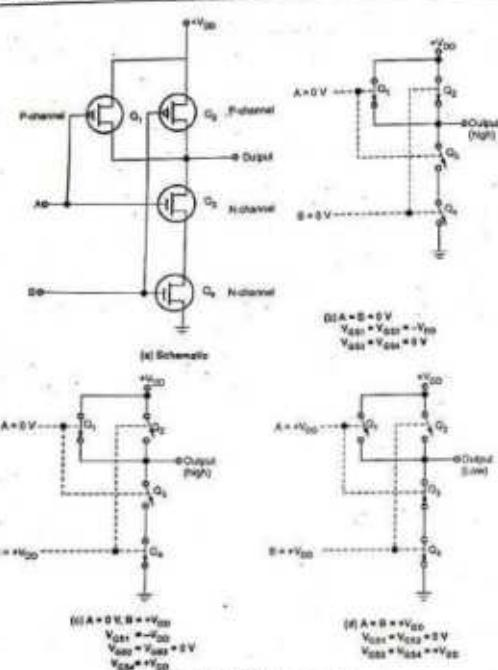

Fig. 3.4.5 CMOS NAND gate
- Fig. 3.4.5 shows CMOS 2-input NAND gate. It consists of two P-channel MOSFETs,  $Q_1$  and  $Q_2$ , connected in parallel and two N-channel MOSFETs,  $Q_3$  and  $Q_4$  connected in series. (See Fig. 3.4.5 on next page)
- Fig. 3.4.5 (a) shows the equivalent switching circuit when both inputs are low. Here, the gates of both P-channel MOSFETs are negative with respect to their sources, since the sources are connected to  $+V_{DD}$ . Thus,  $Q_1$  and  $Q_2$  are both ON. Since the gate-to-source voltages of  $Q_3$  and  $Q_4$  (N-channel MOSFETs) are both 0 V, those MOSFETs are OFF. The output is therefore connected to  $+V_{DD}$  (HIGH) through  $Q_1$  and  $Q_2$  and is disconnected from ground, as shown in the Fig. 3.4.5 (b).
- Fig. 3.4.5 (c) shows the equivalent switching circuit when  $A = 0$  and  $B = +V_{DD}$ . In this case,  $Q_1$  is on because  $V_{GS1} = -V_{DD}$  and  $Q_4$  is off because  $V_{GS4} = +V_{DD}$ . MOSFETs  $Q_2$  and  $Q_3$  are off because their gate-to-source voltages are 0 V. Since  $Q_1$  is ON and  $Q_3$  is OFF, the output is connected to  $+V_{DD}$  and it is disconnected from ground. When  $A = +V_{DD}$  and  $B = 0$  V, the situation is similar (not shown); the output is connected to  $+V_{DD}$  through  $Q_2$  and it is disconnected from ground because  $Q_4$  is OFF. Finally, when both inputs are high ( $A = B = +V_{DD}$ ), MOSFETs  $Q_1$  and  $Q_2$  are both OFF and  $Q_3$  and  $Q_4$  are both ON. Thus, the output is connected to the ground through  $Q_3$  and  $Q_4$  and it is disconnected from  $+V_{DD}$ .